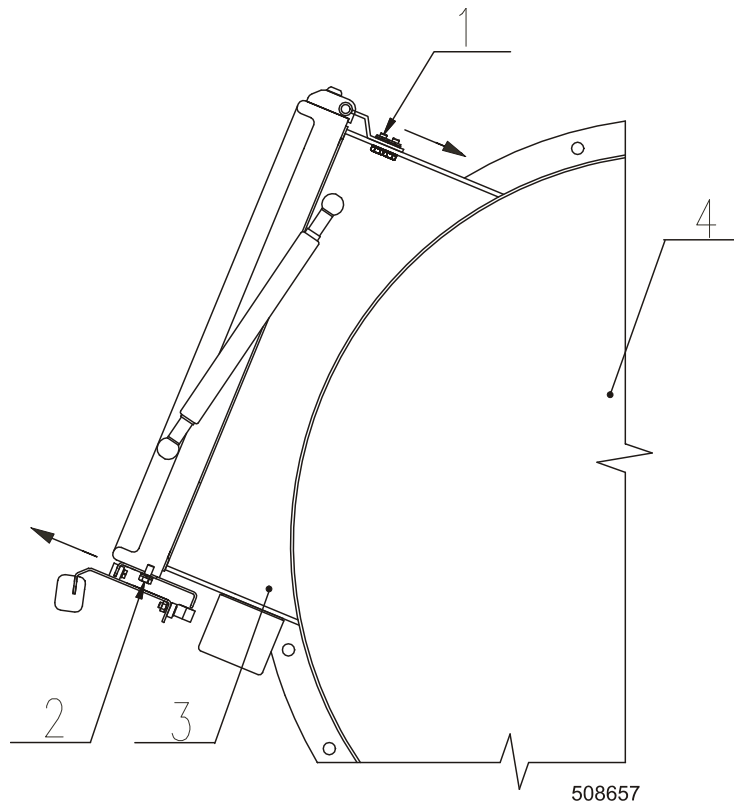

Fig.5.11.
1. Unscrew the securing bolts, fig.5.11., pos.1, (M6x12, 6 pcs), which secure the door hinges to the collar of outside drum.
1. Unscrew the securing bolts, fig.5.11., pos.2, (M6x12, 4 pcs), which secure plate, on which there is the plate fixed with the grab handle to door.
2. Move the plate, where the plate with the grab handle is fasten, towards you (in a direction from the washing drum, pos 4). Check again, if the door sealing fits closely to the outside drum. The door sealing must seal the collar (3) of outside drum on its whole circumference.
3. After the door thrust has been adjusted, tighten up the securing bolts (pos.2).